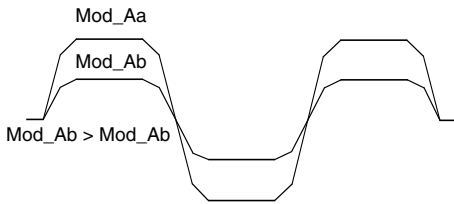

Figure 22. Two Different Modulator Attenuator Settings
- Figure 22 shows two waveforms with different attenuator setting: Mod\_Aa Mod\_Ab . If mod\_A is increased, the frequency deviation is lowered and vice versa.
Mod\_F=0 disables the modulator filter and Mod\_F=7 gives most filtering. Figure 22 shows a waveform with and without the filter.